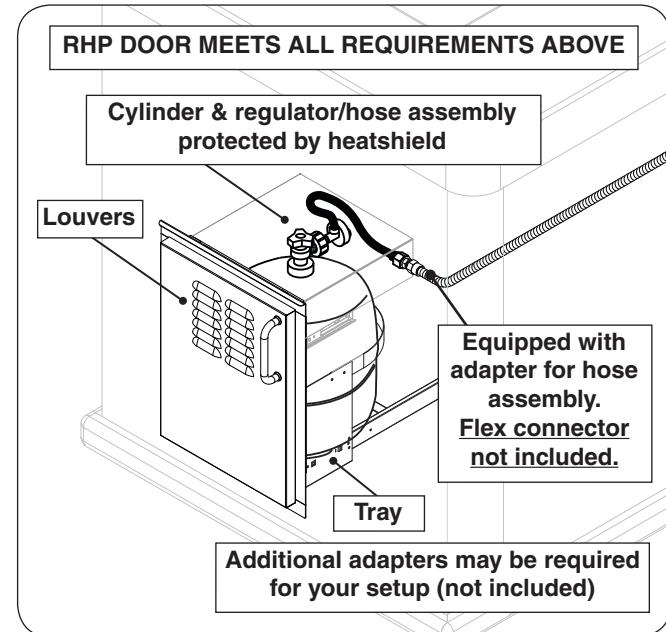

Fig. 9-3 Optional door w/ tank tray & louvers
**RHP offers an "access door with tank tray and louvers" which includes a heatshield that rests directly above the L.P. cylinder, a tray, and louvers to meet the cylinder install requirements. The door is shown in Fig. 9-3. Contact your dealer for ordering information.**